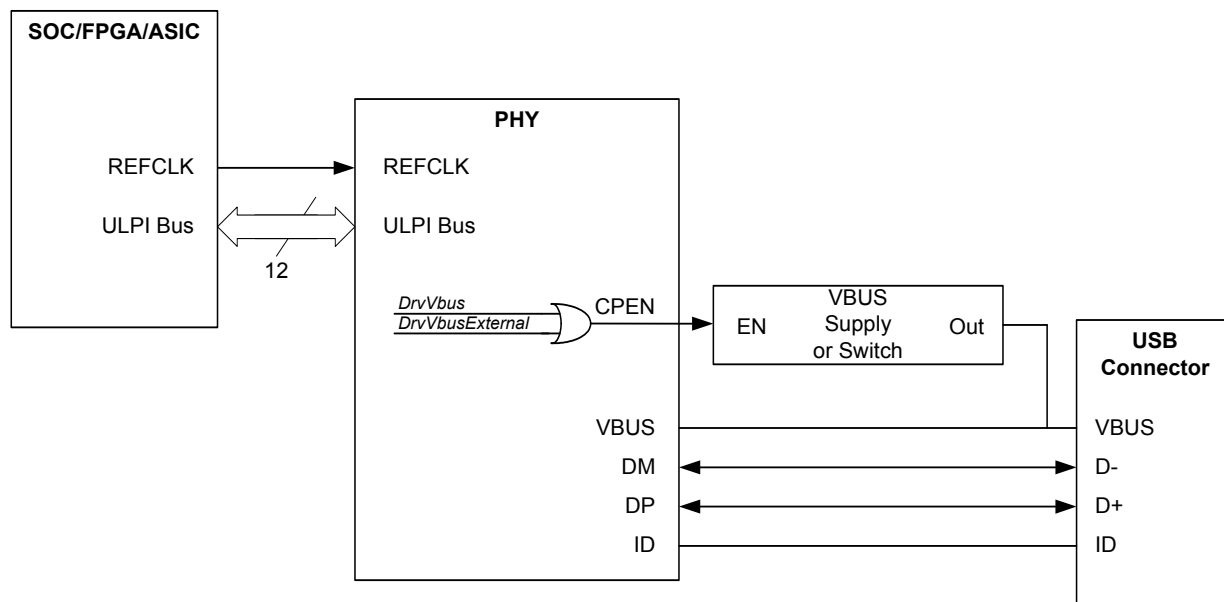

Figure 5.10 USB3315 Drives External Vbus Supply or Switch
**CPEN** is asserted by setting the *DrvVbus* or *DrvVbusExternal* bit of the **OTG Control** register. To be compatible with Link designs that support both internal and external Vbus supplies the *DrvVbus* and *DrvVbusExternal* bits in the OTG Control Register are or'd together. This enables the Link to set either bit to access the external Vbus enable (**CPEN**.) This logic is shown in Figure 5.10. *DrvVbus* and *DrvVbusExternal* are set to 0 on POR.